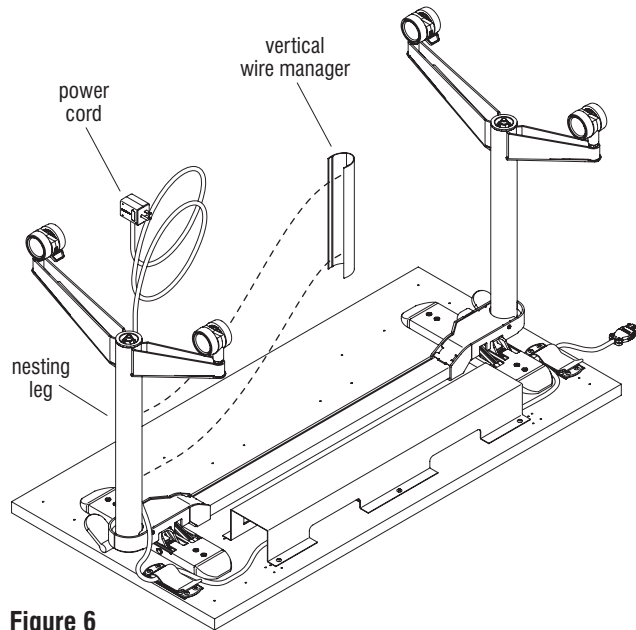

Figure 6
1. Route the power cord along the leg, then snap the wire manager to the post with the cord in between. Vertical wire manager easily snaps on and off the leg, to add or reconfigure cords (Figure 6).